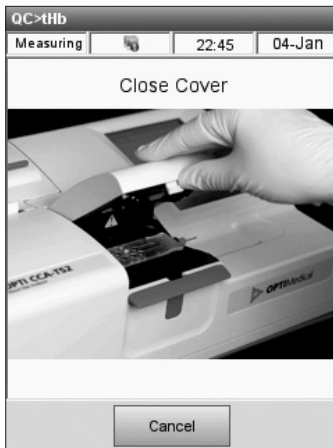

Fig. 2-20 Close Cover
- Close the sample chamber cover (Fig. 2-20).